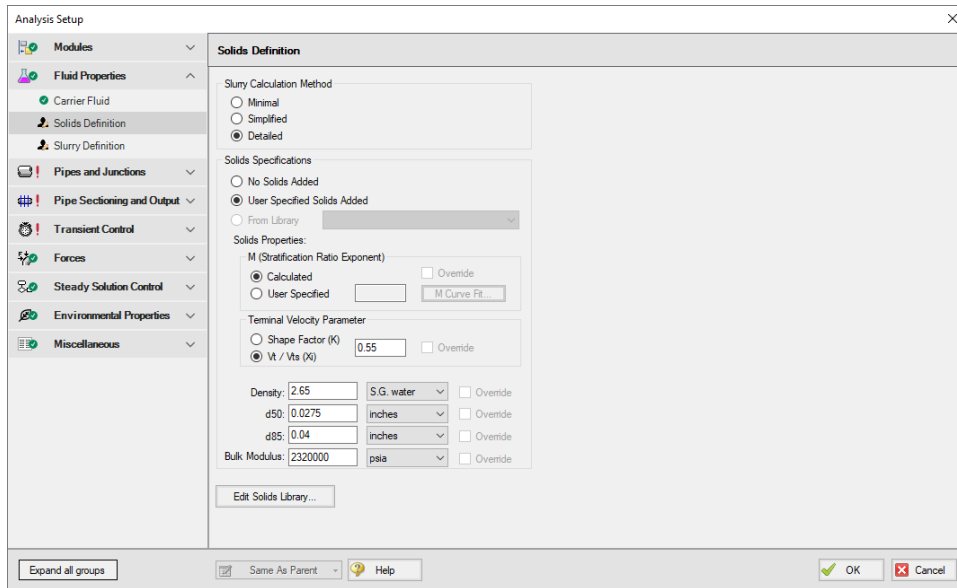

Figure 3: Solids Definition panel
3. Solids Definition panel (Figure 3)